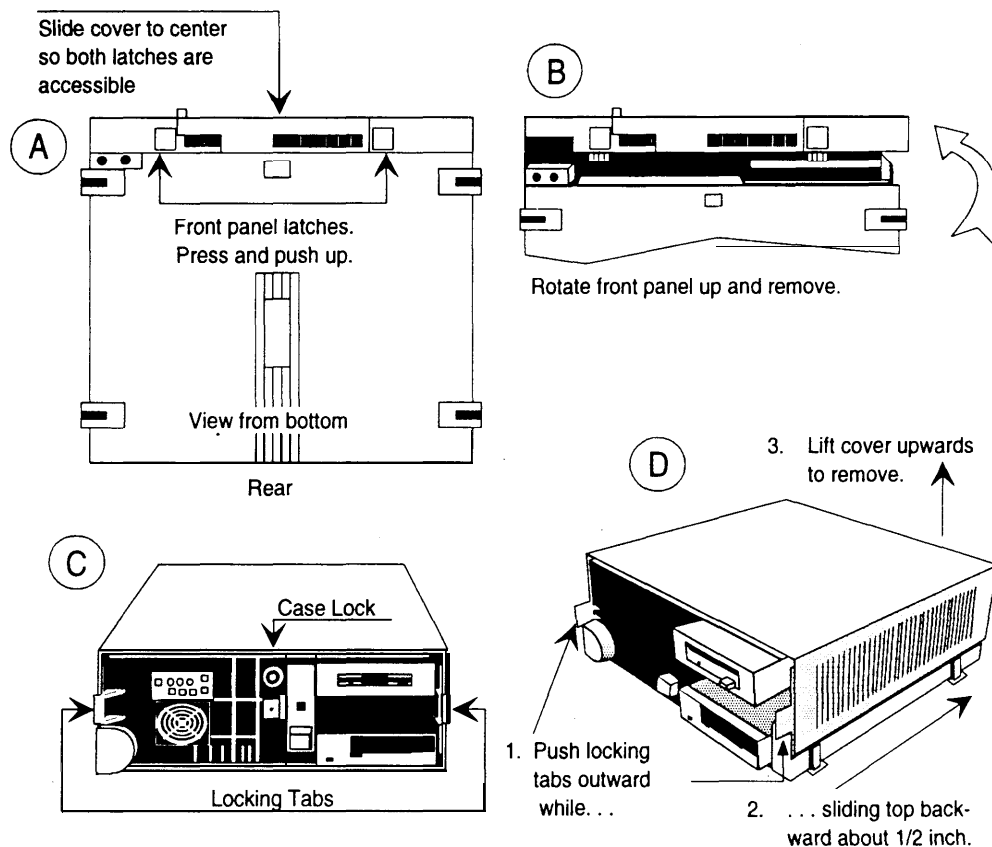

Figure 3-20. Opening the MAP/5 System Unit
2. Refer to Figure 3-20 (A). Place the system unit on its rear panel with the front panel latches facing you.
5. Refer to Figure 3-20 (B). When the bottom of the front panel is loose, rotate and lift it to remove.
6. Refer to Figure 3-20 (C). Lower the system unit to the work table so that it rests on the wide side that was facing you.
8. Refer to Figure 3-20 (D). Press the locking tabs on each side outward to release the top cover while pushing the top cover away from you.
1. Refer to Figure 3-20 (D). Lower the top cover onto the chassis. It should be about 1/2 inch back from its closed position. Check that the sides of the top cover fit properly with the chassis.
5. Refer to Figure 3-20 (A and B). Hook the top edge of the front panel on the top edge of the top cover and rotate the front panel downward until the latches snap into place.